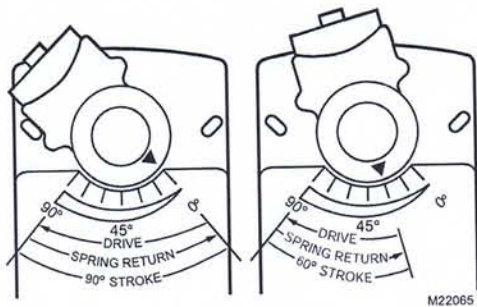

Fig. 5. Stroke reduction.
3. Rotate the coupling to the desired fail-safe position, aligning it based on the stroke labelling. See Fig. 5.
**EXAMPLE:** Setting shaft coupling to an approximate fail-safe position of 35 degrees (as indicated on the housing) limits stroke to 60 degrees. (See Fig. 5)